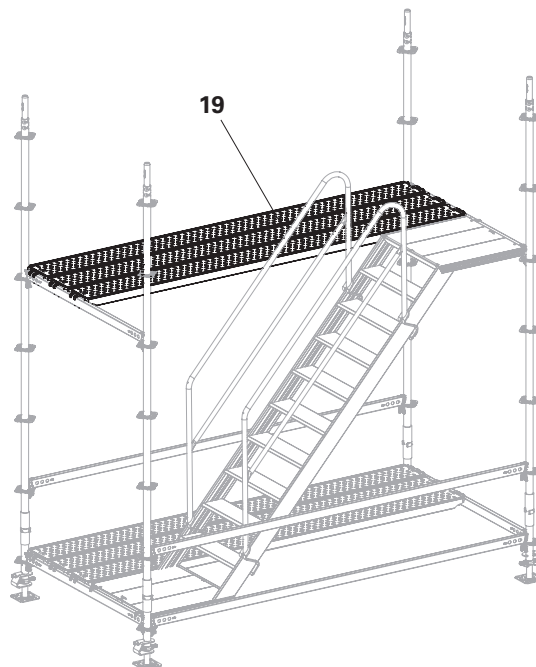

Fig. A3.09
4. Fit 3 x Steel Decks UDG-2 (19) next to the Flex Stair. (Fig. A3.09)